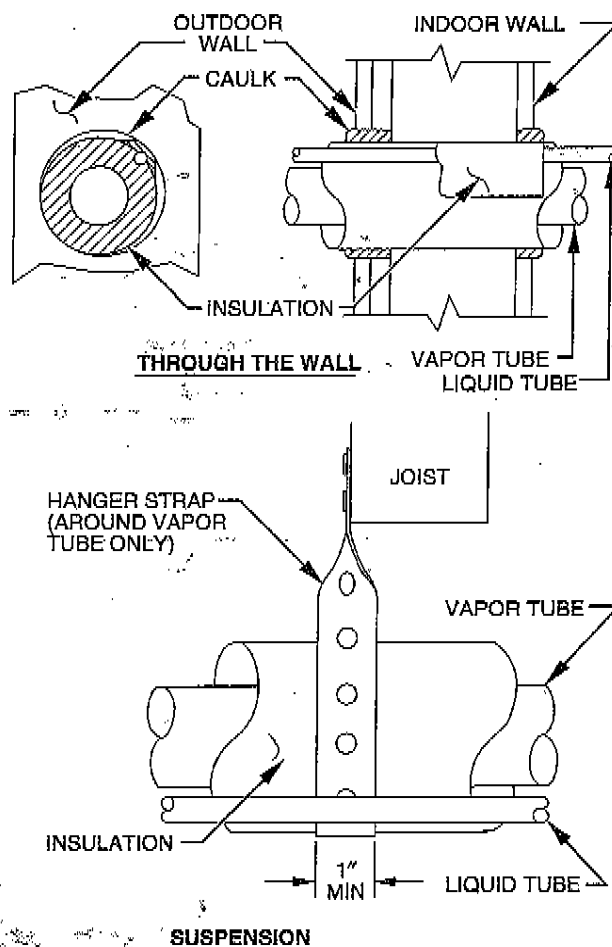

Fig. 5—Piping Installation
5. When passing refrigerant tubes through wall, seal opening with RTV or other pliable silicon-based caulk. (See Fig. 5.)
7. Do not suspend refrigerant tubing from joists and studs with a rigid wire or strap which comes in direct contact with tubing. (See Fig. 5.)
9. When necessary, use hanger straps which are 1-in. wide and conform to shape of tubing insulation. (See Fig. 5.)